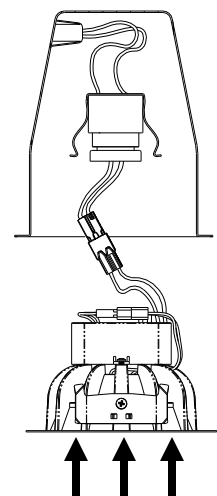

FIG. 4
- Tuck all wires into the CAN and carefully push the RETROFIT TRIM into CAN. (NOTE: To provide enough room in shallow cans, carefully position SOCKET ADAPTER and SOCKET adjacent to the side of the LED DRIVER prior to inserting the RETROFIT TRIM into the CAN.) (FIG. 4)
- Tuck all wires into the CAN and carefully push the RETROFIT TRIM into CAN. (FIG. 4)